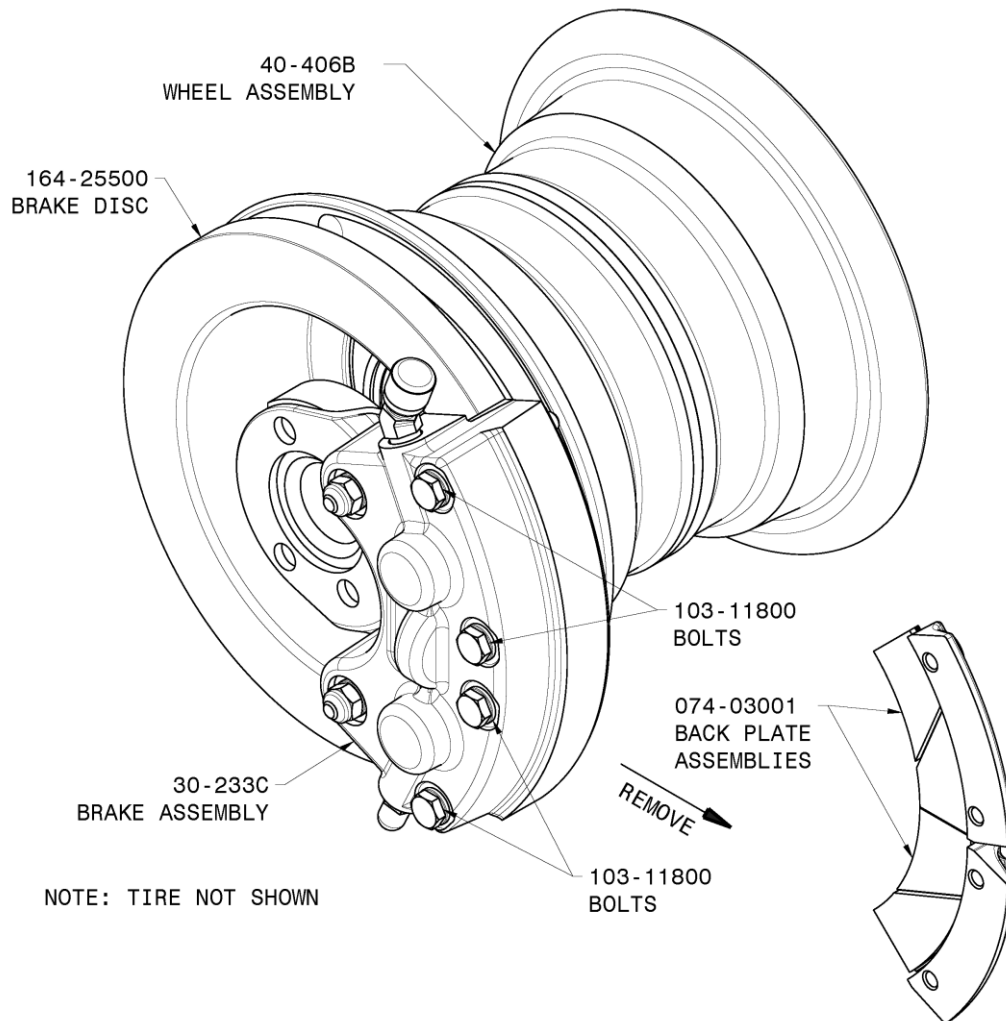

Figure 2 Remove the brake back plate assemblies
- (4) Refer to Figure 2. Loosen the six bolts (103-11800) on the brake cylinder and remove the back plate assemblies.